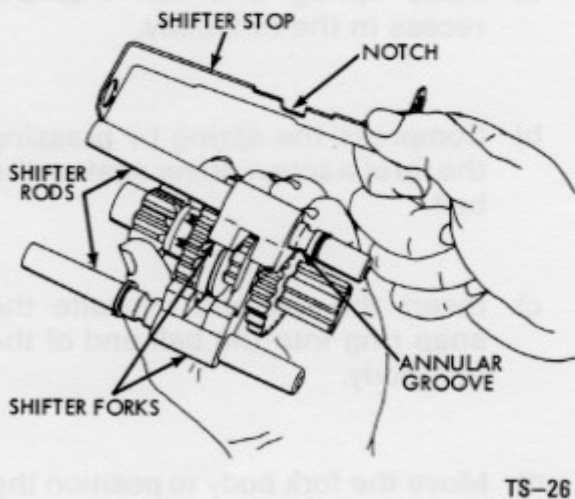

Figure 26 - Positioning Shifter Stop
4. Assemble the stop bracket (Figure 26) onto the shifter rods. The deep cut neutral slot must be in alignment with the fork neutral slots and away from the shifter shaft.